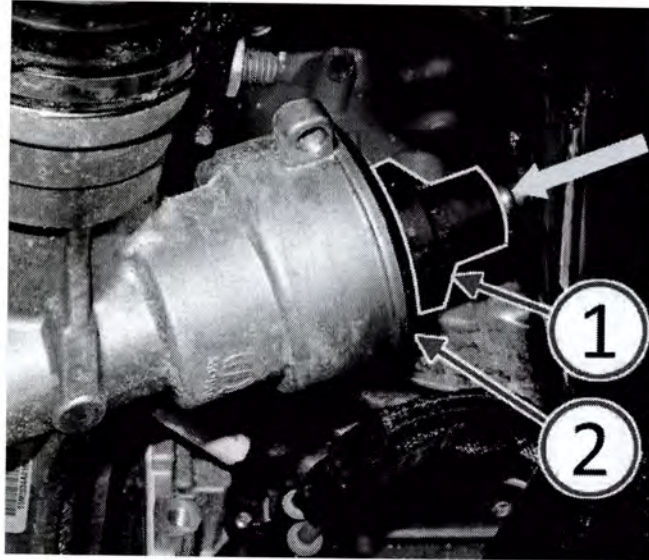

Fig. 4 Reinstall Dust Cover
8. Slide the dust cover (1) back over the pinion cover (2) and secure the dust cover into place (Fig. 4).